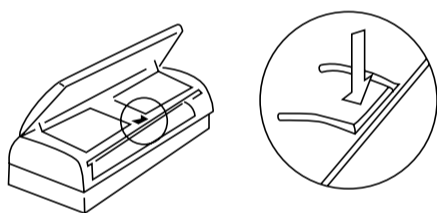

Fig. 3-14
(3) Assemble the cover of electric box and the front cover.
- Open the suction grille, push the center of front cover downward as arrow and fit the center hook of front cover. (Fig. 3-14)